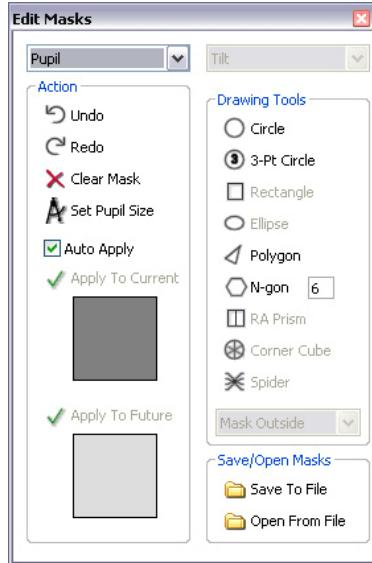

Figure 46: Edit Masks dialog box.
2. Choose **Edit > Masks > Pupil** to open the **Edit Masks** dialog box (*Figure 46*).